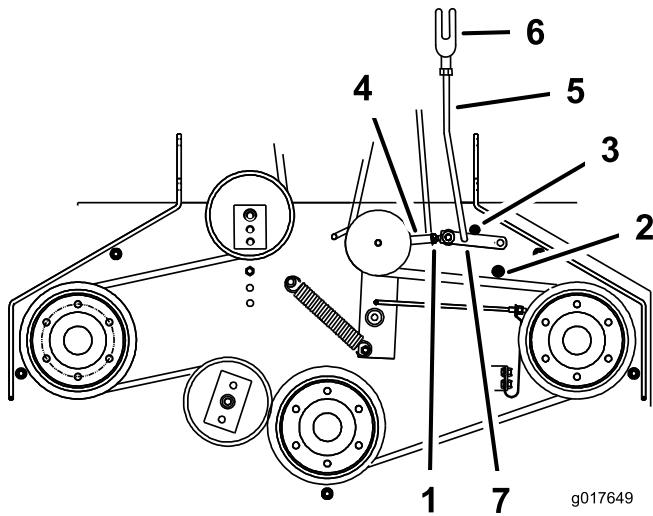

Figure 43
5. Ensure that the assist arm is against the rear assist-arm stop on the deck (Figure 43).
7. The assist arm should contact the front assist-arm stop on the deck. If it does not contact, adjust the bellcrank so that it is closer to the gusset (Figure 43).